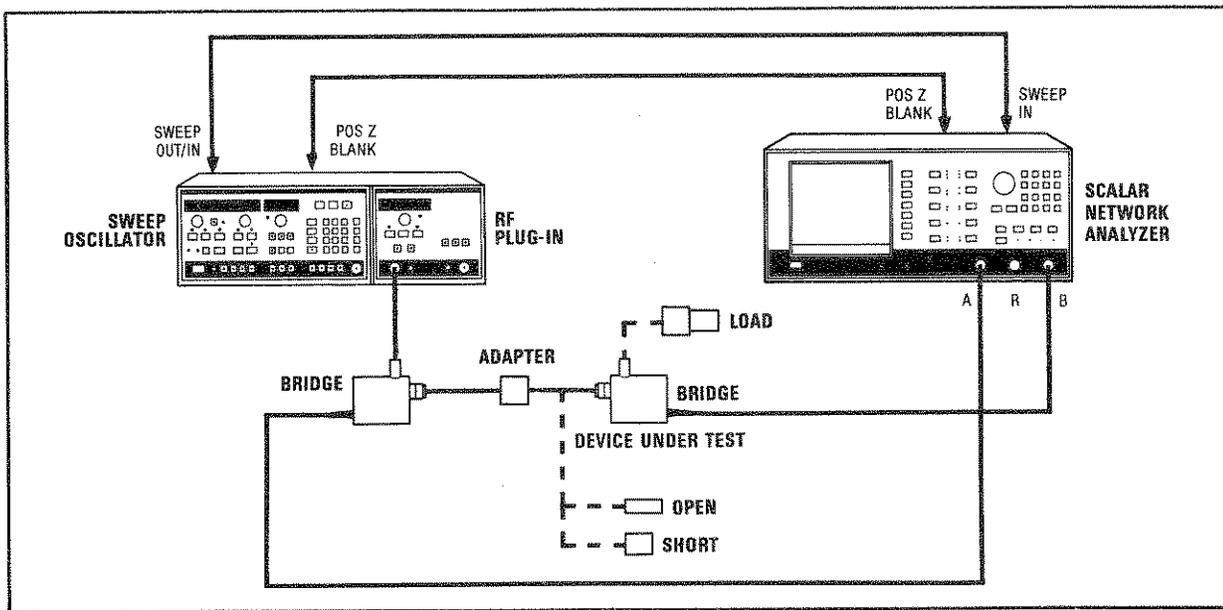

Figure 4-4. TEST Port SWR Test Setup
1. Set up the equipment as shown in Figure 4-4, with the calibrated short connected to the directional bridge (the test device, not the device under test).